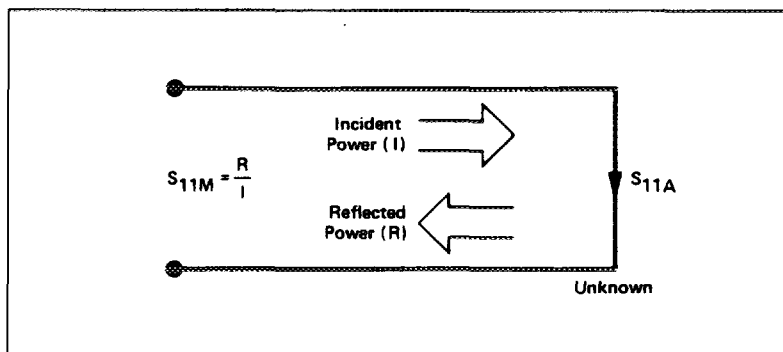

Figure 5-33. Reflection Coefficient
The reflection coefficient is measured by first separating the incident signal (I) from the reflected signal (R), then taking the ratio of the two values (Figure 5-33). Ideally, (R) consists only of the signal reflected by the test device ( $S_{11A}$ ).